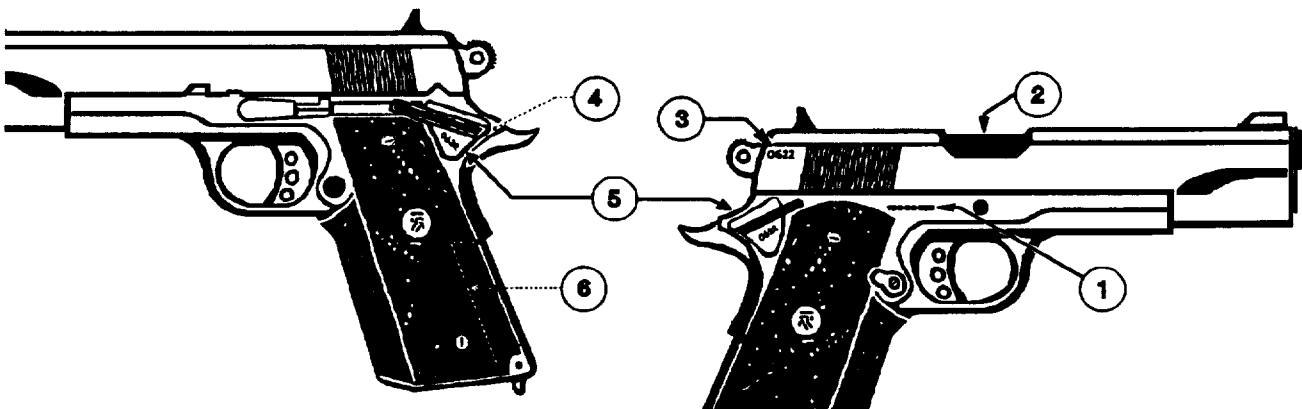

Figure 2-4. Serial Number Locations
2-4. SERIAL NUMBER LOCATIONS. The MEU(SOC) .45 Caliber Pistol components are hand fitted and are not interchangeable. The last four digits of the weapon serial number (1), Figure 2-4, are stamped on the top of the barrel (2), on the right-side of slide assembly (3), inside of the beavertail grip safety (4), on each of the ambidextrous thumb safety (5), and on the inside face of the mainspring housing group (6).